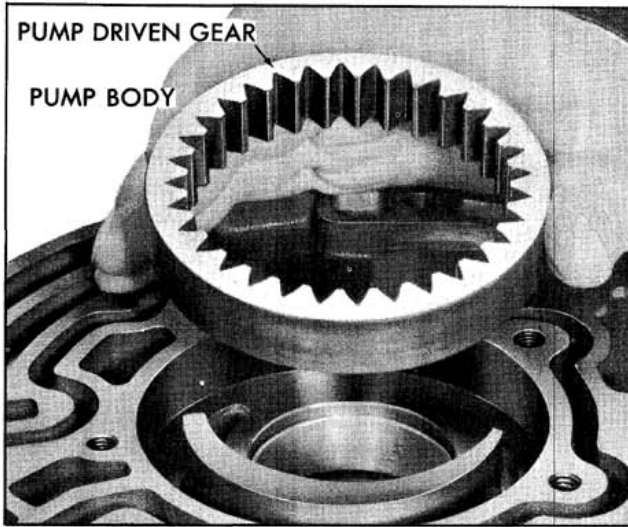

Fig. 6-113 Installing Driven Gear
1. Install the drive and driven pump gears into the pump body with alignment marks up. (Figs. 6-113 and 6-114)